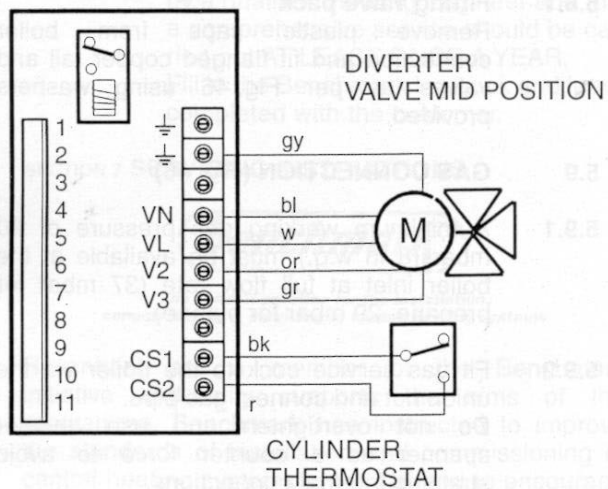

Fig. 48B
5.13.3 To gain access to external zone valve and cylinder stat connection box remove the 2 screws on the side of the plastic cover just behind the control panel (see Fig. 48a or Fig. 48b).